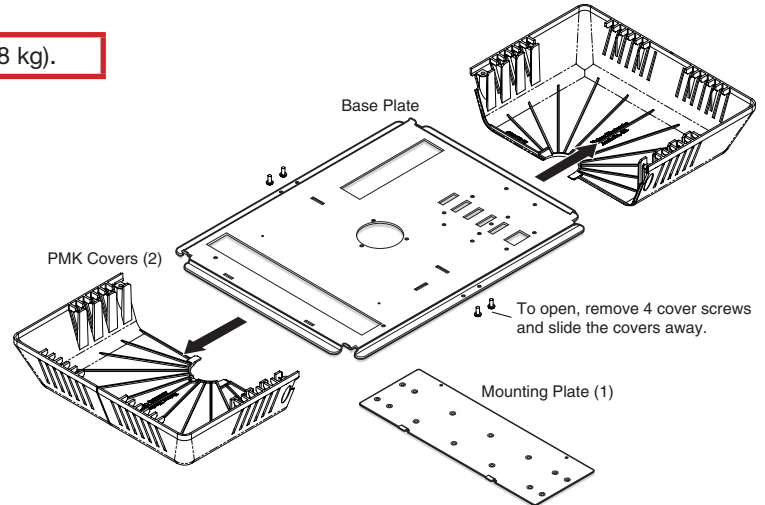

Figure 1. PMK 550
1. Remove the four cover screws from the center (see figure 1). Slide the two halves apart and remove them from the base plate.